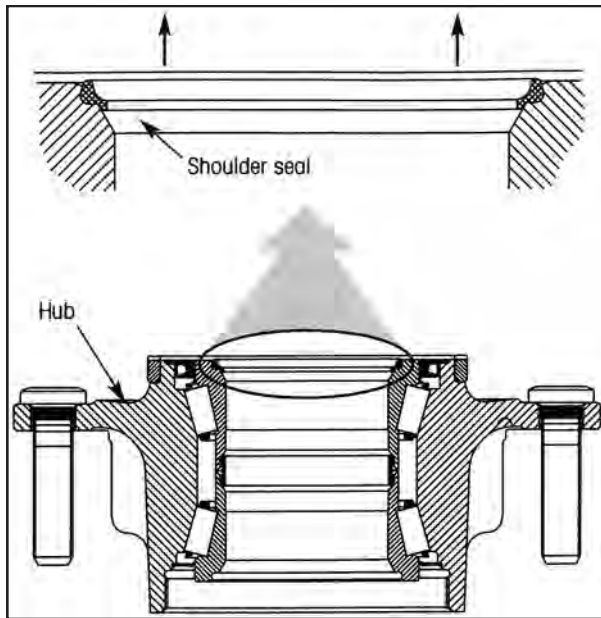

Figure 14. Cross Section View of Wheel Hub
The wheel hub revolves around the axle spindle on two roller bearings. The bearings are lubricated and the hub cavity is sealed against leakage by a seal which rides around an axle ring on the spindle shoulder. Figure 14 illustrates the bearing and seal arrangement.
1. Tighten inner jam nut (Figure 14) with a 12 inch wrench while turning wheel in both directions until there is a slight bind which indicates all bearing surfaces are in contact.